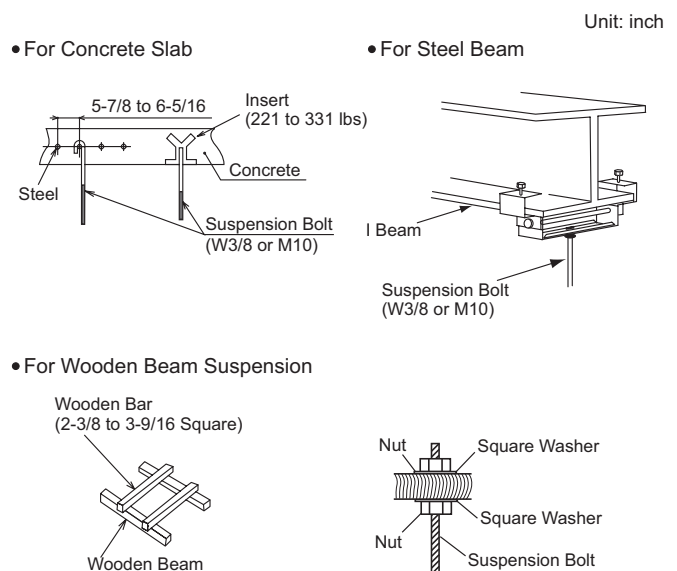

Figure 5.1 Mounting of Suspension Bolts
- (1) Determine the final location and installation orientation of the indoor unit with respect to the space allowed for piping, wiring, and maintenance access.
- (2) Mount suspension bolts, as shown in Figure 5.1.